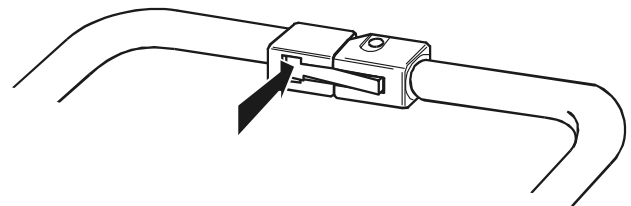

Figure 3 - Opening the End Couplings
2. Separate the stretcher halves by pressing the lock lever of each coupling and pulling the coupling halves away from each other (Figure 3).
- Open only the foot-end coupling. To open, press inward on the coupling lock lever (see Figure 3, page 8).